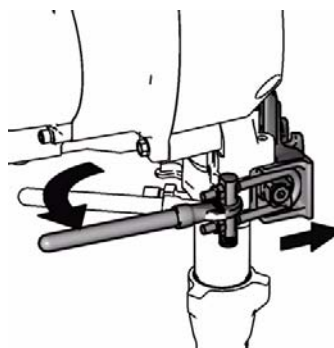

FIG. 14
7. FIG. 14. Ratchet open pump door.